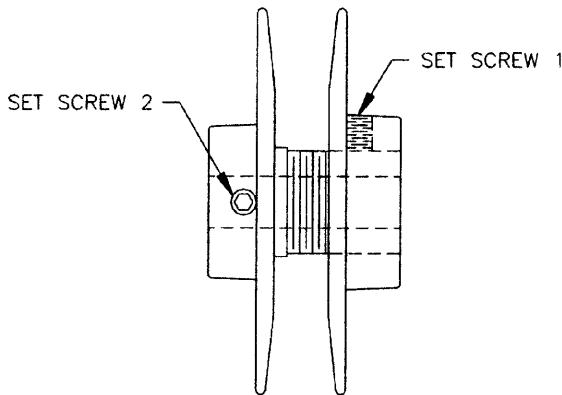

FIGURE 1
1. Loosen the set screw to allow one side of the motor pulley to rotate. See Fig. 1, set screw 1.
7. Set belt tension and tighten set screw on motor pulley. See Fig. 1, set screw 2.